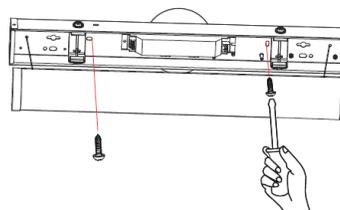

Fig. 5
5. Secure the fixture to the wall with the correct mounting hardware (Fig. 5).